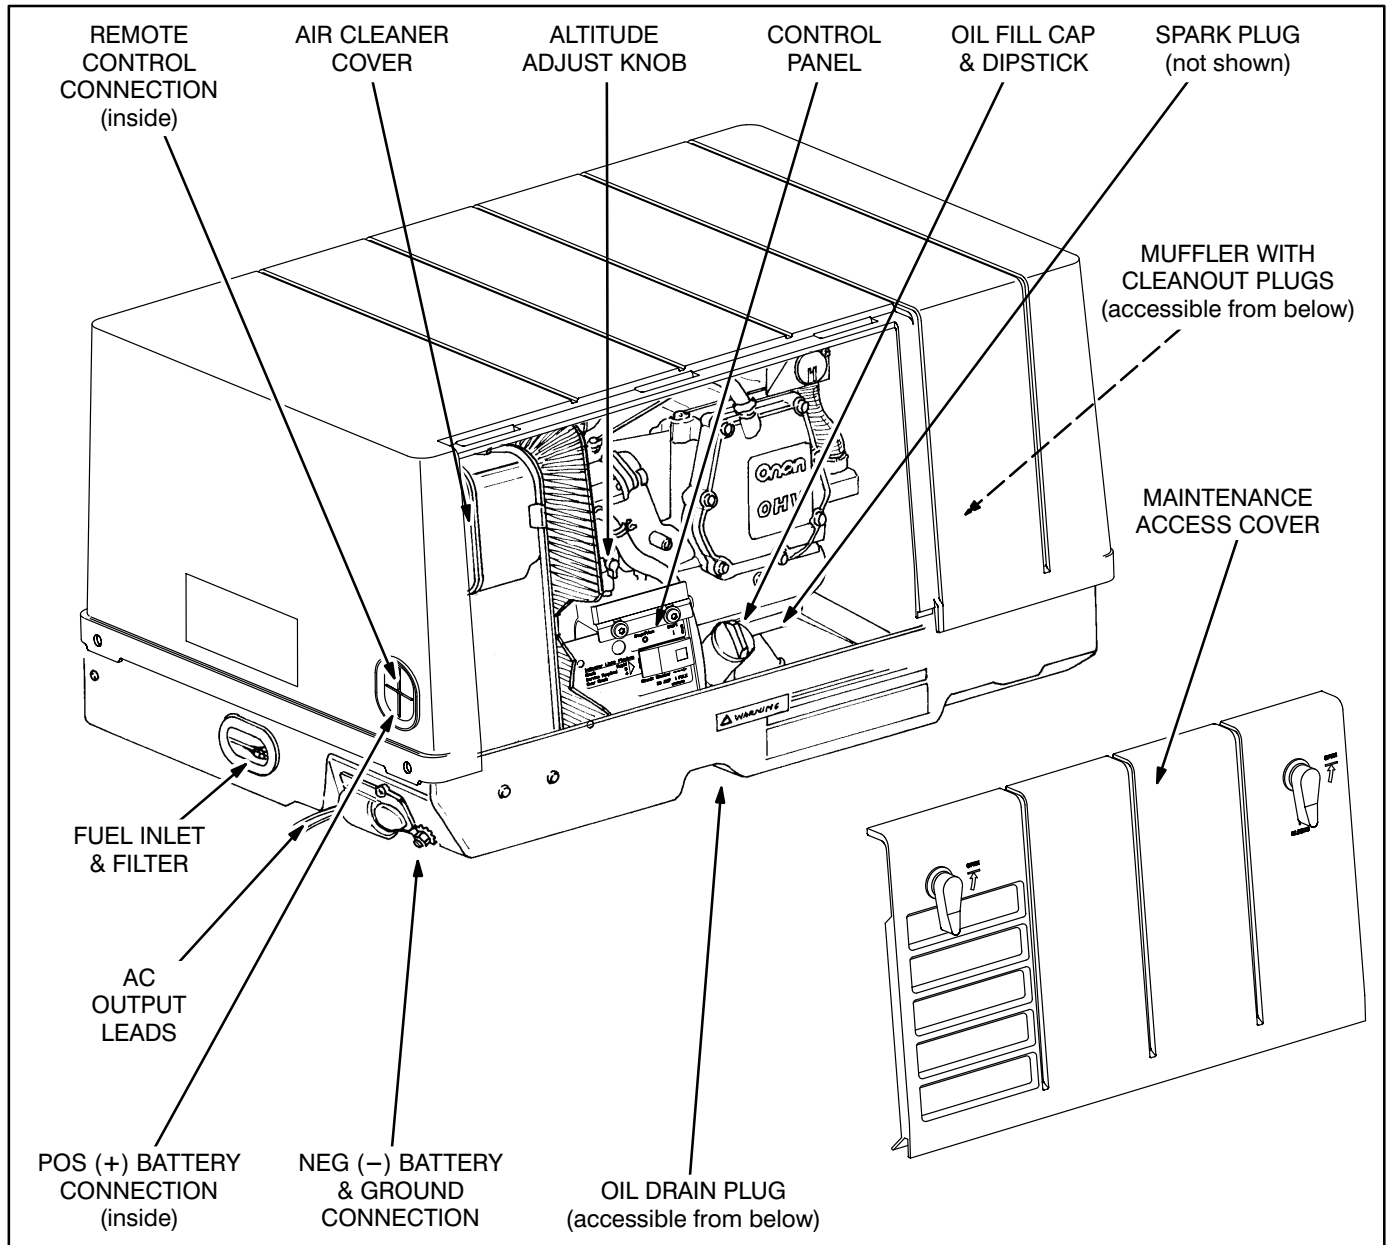

FIGURE 1. TYPICAL GENSET
Figure 1 illustrates a typical genset. See OUTLINE DRAWING (Page 21) for installation details: mounting bolt hole locations, connection points (fuel, battery, remote control, AC output and exhaust), sizes and types of fittings, inlet and outlet air openings, weight and overall dimensions, etc. See Pages 22,
4. Provide ready access for fuel and battery connections and all periodic maintenance procedures (Figure 1). When mounting the genset on a floor, use Compartment Template 539-1546 to locate the cutout for the oil drain. Do not route the exhaust tailpipe underneath the oil drain.